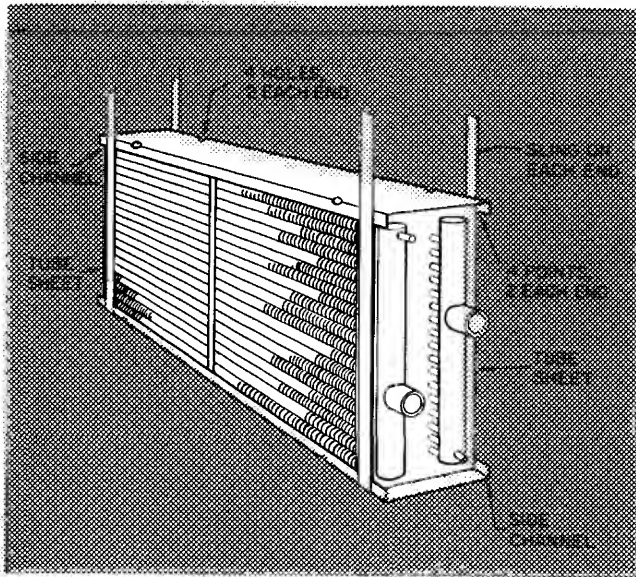

Fig. 27 — Handling Coil with Face Vertical
5. Slide coil out of unit. *Handle cooling coils with coil face vertical. Handle heating coils with coil face vertical or horizontal. Lift coils from four suspension points at corners as close to tube sheets as possible per Fig. 27.*